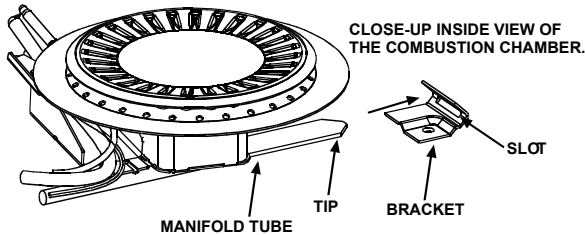

FIGURE 46.
3. Insert the new manifold/burner assembly into the burner compartment, making sure that the tab of the manifold tube engages the slot of the bracket inside the combustion chamber (Figure 46).